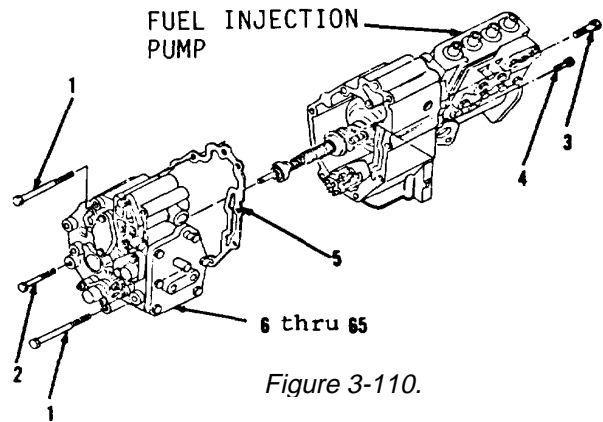
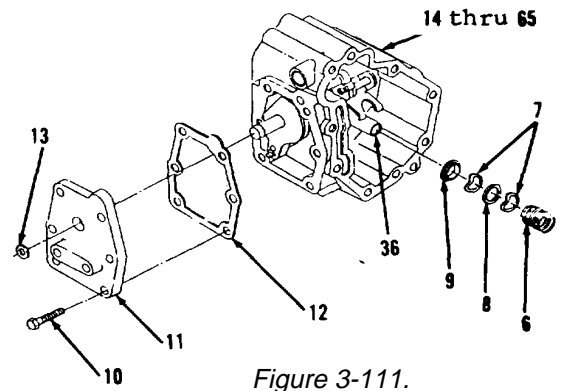
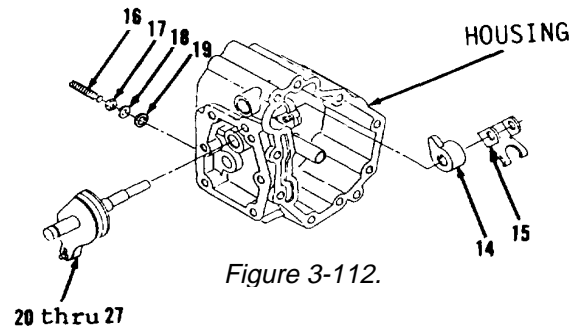
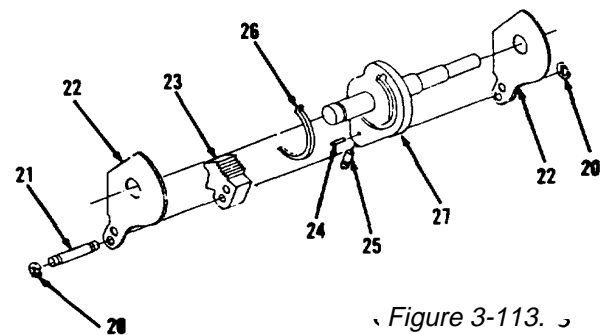

Figure 3-110.
Figure 3-111.
Figure 3-112.
Figure 3-113.
1. Remove four bolts (1), two bolts (2 and 3) and bolt (4, Figure 3-110) from governor and fuel injection pump assembly.
2. Separate items 6 thru 65 as an assembly and gasket (5) from fuel injection pump and center housing assembly. Discard gasket (5). Remove all gasket material from mounting surfaces.
3. Remove spring (6), two washers (7), washer (8) and seat (9) from guide (36, Figure 3-111) on rear governor housing.
4. Remove six bolts (10), cover (11) and gasket (12). Discard gasket (12). Remove all gasket material from mounting surfaces.
5. Using suitable driver and hammer, remove and discard seal (13).
6. Remove items 14 thru 65 as an assembly.
7. Remove items 20 thru 27 as an assembly and levers (14 and 15, Figure 3-112).
8. Remove screw (16), nut (17) and washers (18 and 19). Discard washer (19).
9. Remove four rings (20) from two pins (21, Figure 3-113).
10. Remove two pins (21), plates (22) and stop (23).
11. Remove dowel (24), pin (25) and spring (26) from shaft (27).